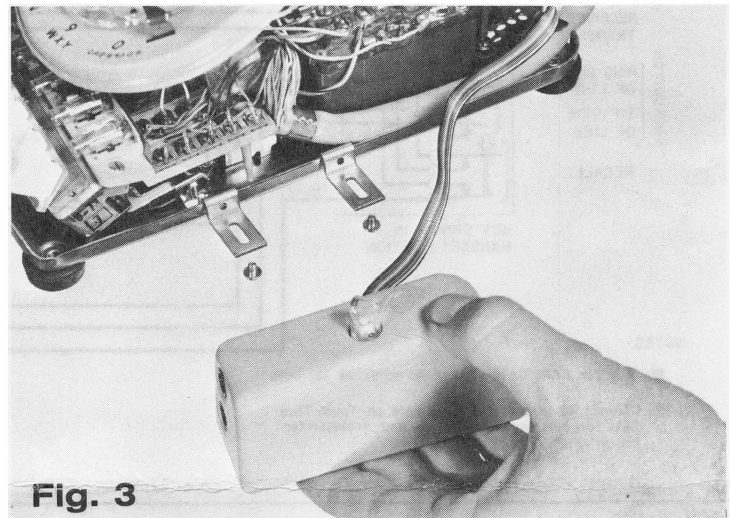

Fig. 3
4. Remove (2) machine screws from applique base and re-install unit in upright position using lockwashers, do not tighten screws at this time. (Fig. 3)